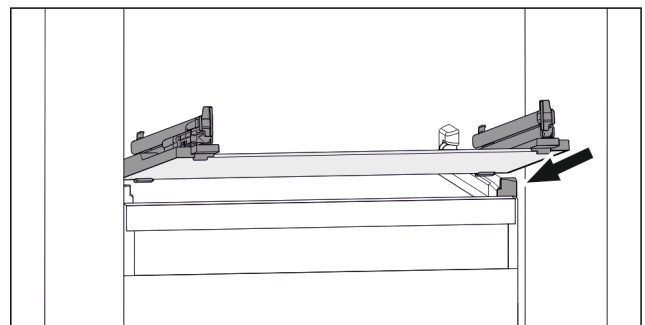

Fig. 163 Example illustration of glass shelf
- ▶ Position glass shelf at an angle behind the stoppers. (see Fig. 163)